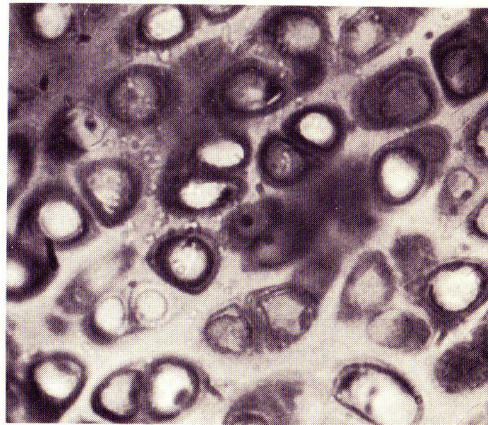

Figure 2. Photomicrograph.
**Setting up the Focaslide:** The Focaslide consists of a sliding plate (A), fig. 2, with parallel dovetail runners (18) along its sides and a fixed plate (B) with parallel dovetail grooves (19). The Focaslide is supplied with the two parts fitted together.